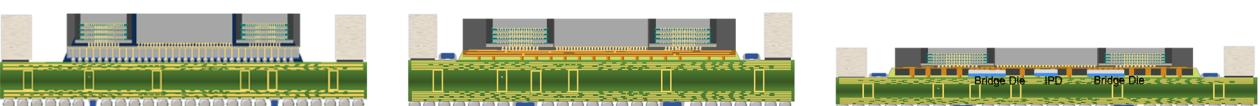

Figure 1: a) 2.5D TSV (silicon interposer), b) HDO (S-SWIFT™) RDL interposer, c) Bridges (S-Connect) (RDL+ Bridge (s)).
(MCM), which has been in production for decades, with modern designs trending to higher silicon and passive density on the substrate. The second option for higher-density integration approaches is to create modules that integrate the die or chiplets, which needs ultra-fine-line routing for die-die interfaces. Today, these are (A) modules based on silicon interposers – 2.5D through silicon vias (TSVs), (B) modules based on high-density fan-out (HDO) multi-layer redistribution layer (RDL) approaches, or (C) modules with bridges as shown in Figure 1.